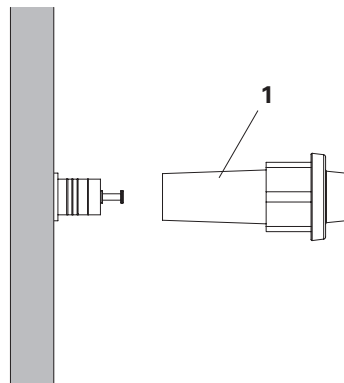

Fig. A1.03
2. Place the Stopend Sleeve DW 15 (**1**) on the nail plug (**1.1**). (Fig. A1.03)